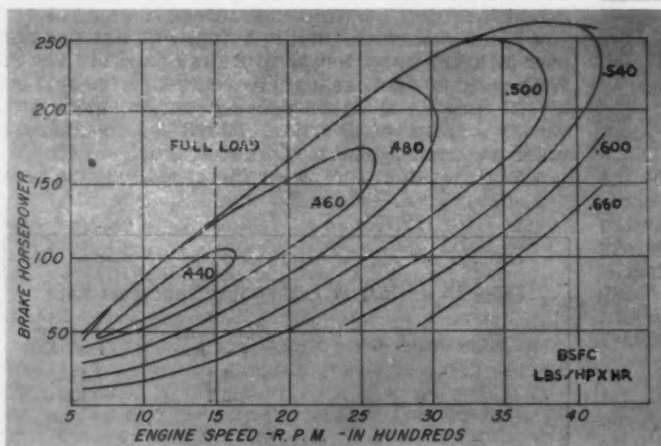

Fig. 10 — Typical fuel island plot of fuel requirements versus horsepower and engine speed.
- The brake specific fuel consumption should be kept as low as possible. Fig. 10 charts typical fuel island plots for fuel requirements versus horsepower and engine speeds. A thoroughly adequate governor should automatically select the optimum brake horsepower requirement at any speed. (Fig. 10)